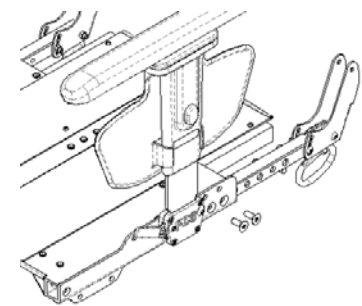

Figure 10.13: *Adjusting the seat depth*
1. The seat depth is adjusted by simply loosening and removing the two 5/16-18 flat head fasteners on each side (see Figure 10.13).